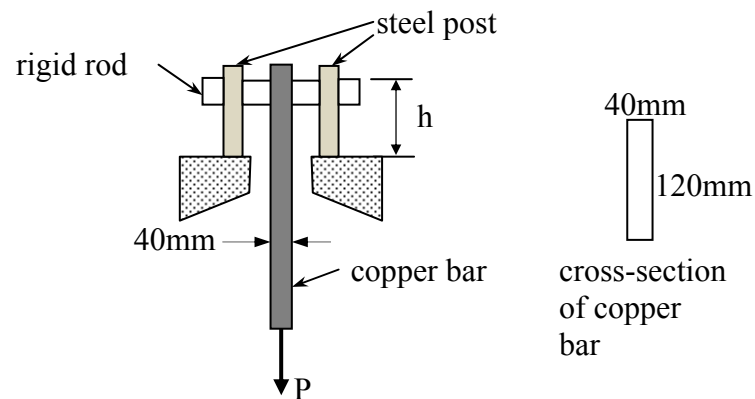

Figure 3
3. (a) Figure 3 shows a copper bar pulled by a load  $P=400\text{kN}$ . The copper bar has a rectangular cross-section as shown in Figure 3. The length of the copper bar is  $L=7.5\text{m}$  and its modulus of elasticity  $E_c=110\text{GPa}$ . The copper bar is suspended from a rigid rod which is supported by two steel post. Each of the steel post has height  $h=1.05\text{m}$ , modulus of elasticity  $E_s=200\text{GPa}$  and cross-sectional area  $A_s=4.5\times 10^3\text{mm}^2$ .